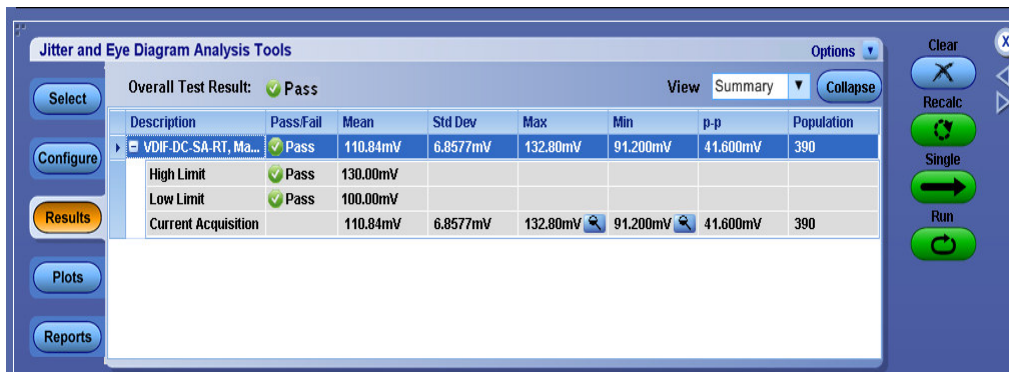

Figure 3: VDIF_DC_SA_RT_TX Measurement
3. Click on **Single Run** and verify the result as shown below in Figure 3.